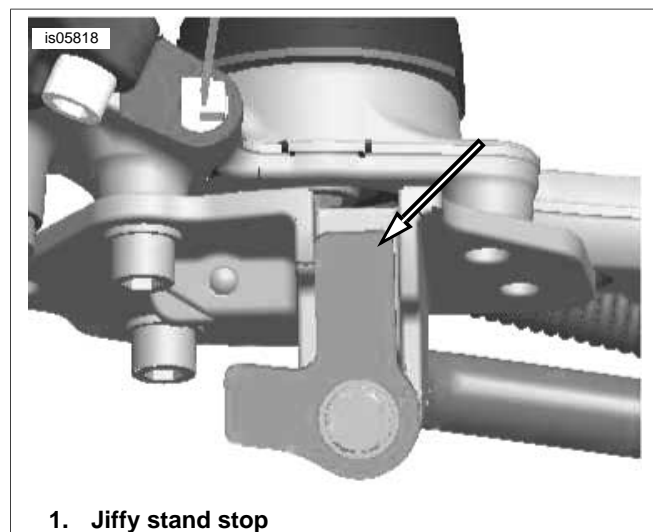

Figure 12. Install Jiffy Stand Stop
3. See Figure 12. Install new jiffy stand stop (1) from kit with hardware removed in Step 1. Note the orientation of the new stop. Tighten bolt to 15-20 ft-lbs (20-27 Nm)